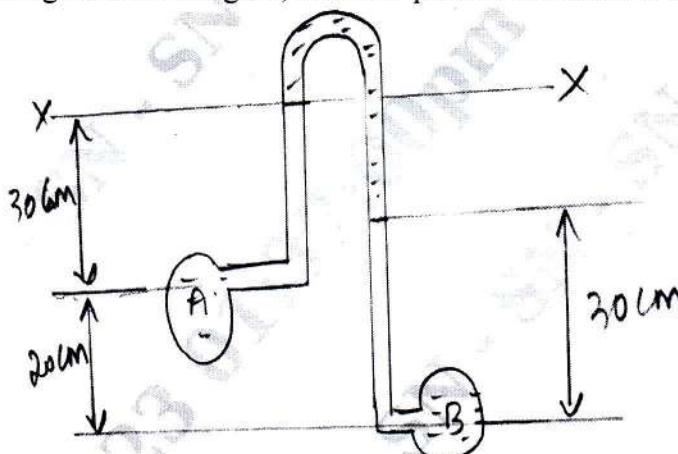

Fig Q2(b)
- b. An inverted differential manometer is connected to two pipes A and B as shown in Fig Q2(b), which conveys water. The fluid in monometer is oil of specific gravity 0.8. For monometric readings shown in figure, fluid the pressure difference between A and B.